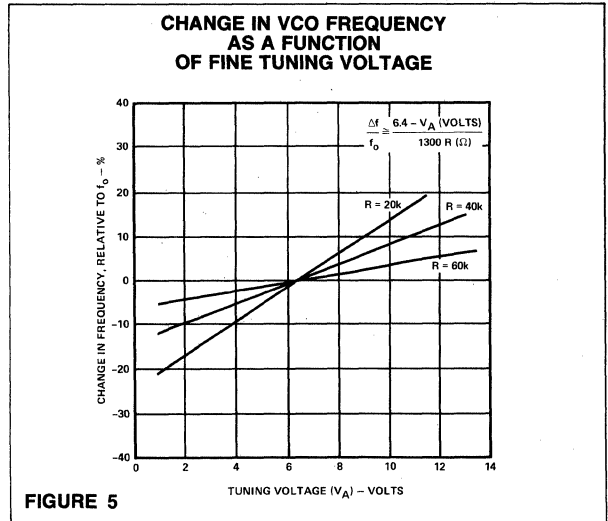

FIGURE 5
The percent change in the VCO free-running frequency, f_0 , as a function of the voltage applied to point (A) is shown in the curves of Figure 5. Note that with this fine tuning technique, it is possible to increase the VCO free-running frequency to a value greater than possible with just a trimmer capacitor alone. A formula for the approximation of the VCO frequency as a function of the voltage at point (A), the resistance values and the starting frequency, is given below: